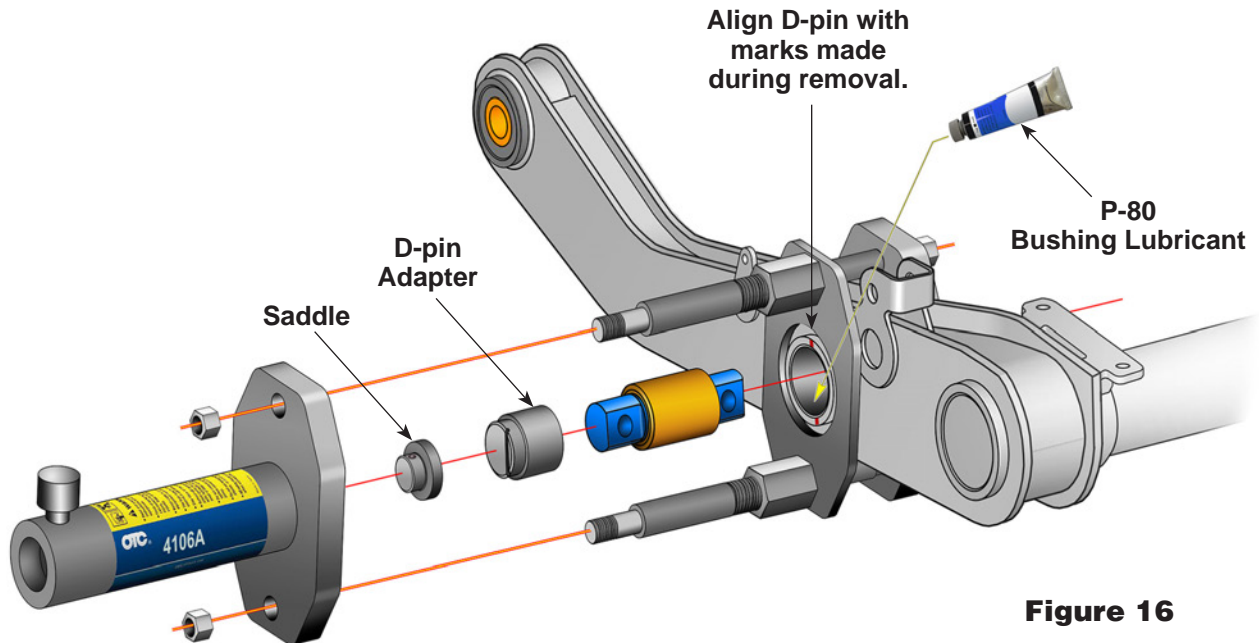

Figure 16
1. Clean and thoroughly lubricate the entire surface of the inside diameter of the beam and outer bushing. See Figure 16.